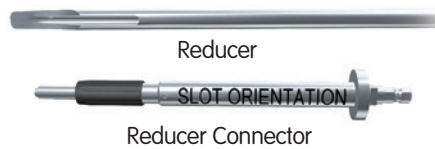

Figure 12
4. Connect the 8.5mm Reducer and the Reducer Connector (71674077) so that the words "Slot Orientation" on the connector are in line with the opening at the Reducer's tip (Figure 12).